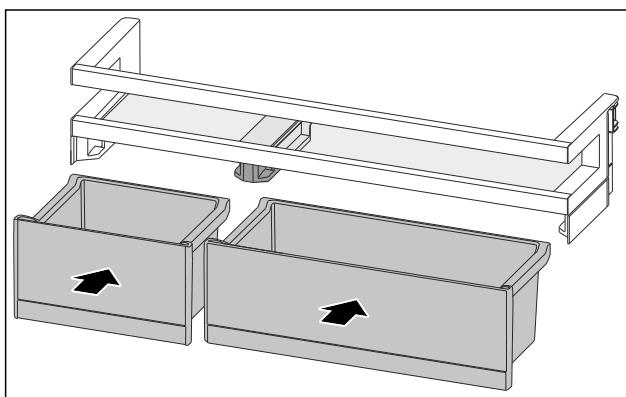

Fig. 94
- Insert the VarioBoxes in reverse order. (see Fig. 94)